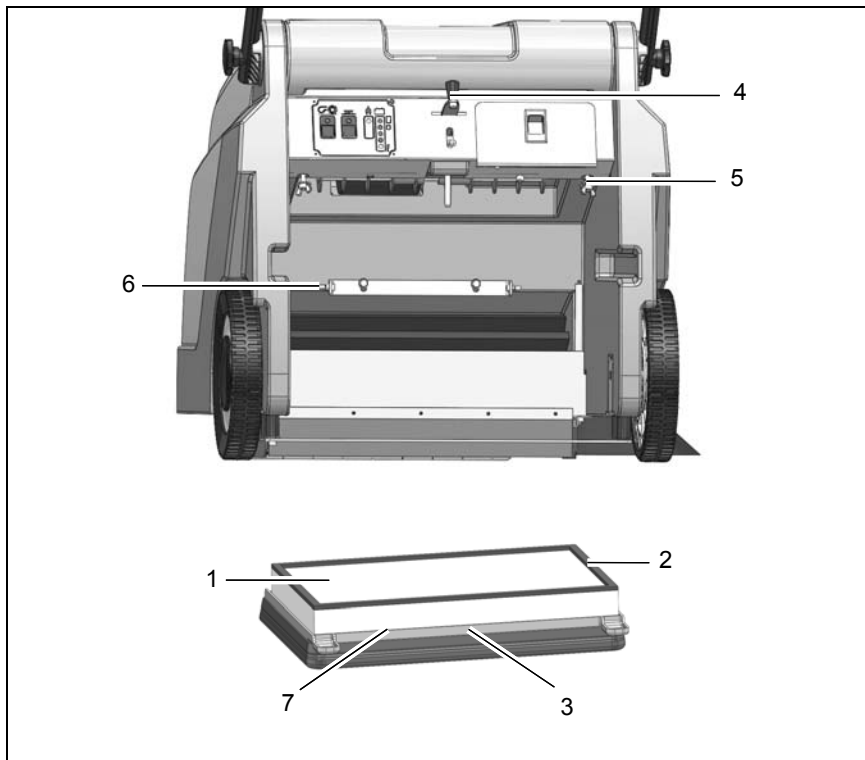

Fig.10
Clean the filter (Fig. 10/1) in the dust vacuum as necessary using the shaking device (Fig. 10/4). In the case of extreme accumulation of dirt, clean the filter as follows:
2. Loosen the wing bolts (Fig. 10/5). Pivot the filter support frame (Fig. 10/3) down and remove it.
5. Insert the correct side of filter in the filter support frame. The sealing strip (Fig. 10/2) must point towards the suction turbine!
6. Hook the filter support frame in the holder (Fig. 10/6) and fix in place with the wing bolts.
Check the filter (Fig. 10/1) every 250 operating hours for signs of wear and change it as necessary.
2. Unscrew the wing bolts (Fig. 10/5). Pivot the filter support frame (Fig. 10/3) down and remove it.
4. Insert the correct side of the new filter in the filter support frame. The sealing strip (Fig. 10/2) must point towards the suction turbine!
5. Hook the filter support frame in the holder (Fig. 10/6), if necessary, and fix in place with the wing bolts.
If the machine is mainly used on carpet, you have to instal the lint filter (Fig. 10/7).
3. Mount the lint filter (Fig. 10/7) between filter (6) and the filter support frame (Fig. 10/3).
4. Hook the filter support frame in the holder (Fig. 10/6) , if necessary, and fix in place with the wing bolts.
Check the fill level of the sweepings container (Fig. 10/1) at regular intervals (max. load capacity 25 kg) and empty as necessary.
1. Switch the machine off and pull the locking mechanism (Fig. 10/2) on the sweepings container (Fig. 10/1) upwards.
2. Pull the sweepings container to the rear out of the machine using the handle (Fig. 10/4) and dispose of the waste according to the applicable environmental laws.
Check the seal (Fig. 10/3) weekly for signs of wear and change it as necessary.
1. Switch off the machine and pull the locking mechanism (Fig. 10/2) on the sweepings container (Fig. 10/1) upwards.
2. Pull the sweepings container (Fig. 10/3) to the rear and out of the
machine using the handle (Fig. 10/4).